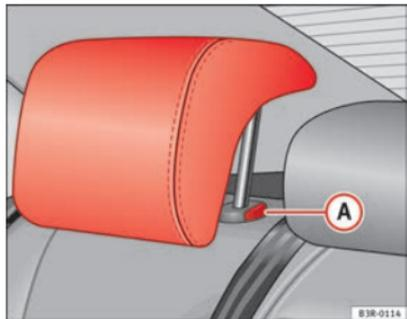

Fig. 111 Outer rear seats: Head restraints
- Press button **A** ⇒ Fig. 111 and lower the head restraint.
- Press button **A** ⇒ Fig. 111 and pull out the head restraint.